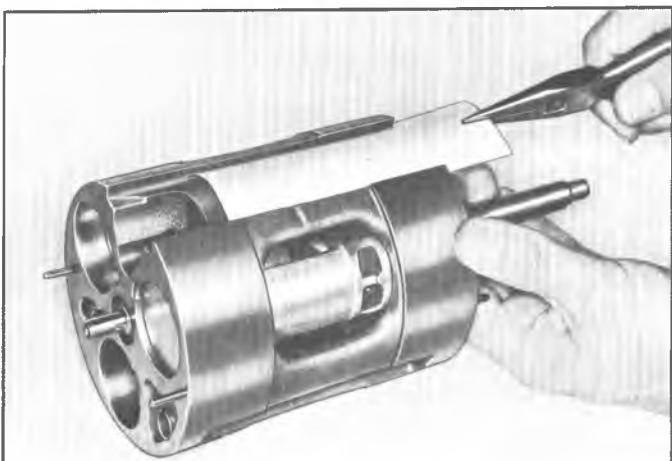

Fig. 17-Removing Suction Crossover Cover
6. Remove the suction crossover cover (fig. 17).